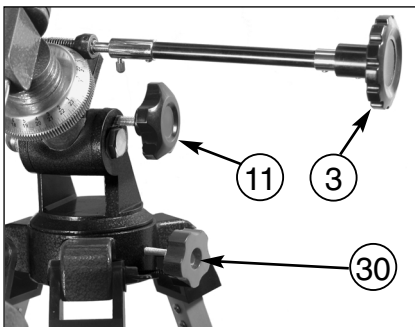

Fig. 1e: More mount features.
- Once centered, the object can be focused by turning one of the knobs of the focusing mechanism (**21, Fig. 1**). You will notice that the astronomical object in the field of view will begin to slowly move across the eyepiece field. This motion is caused by the rotation of the Earth on its axis. To keep astronomical objects centered in the field of the polar aligned telescope, simply turn the R.A. flexible cable control (**3, Fig. 1e**). These objects will appear to move through the field more rapidly at higher powers. Note that the Declination flexible cable control (**4, Fig. 1e**) is used only for centering purposes, and not for tracking.